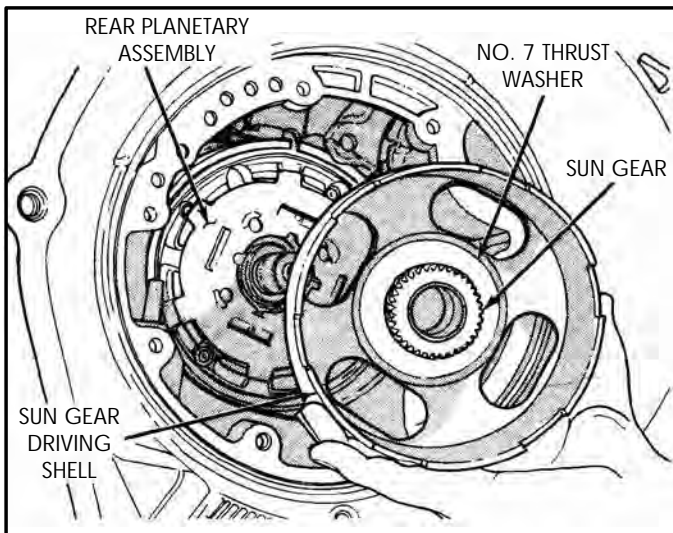

Figure 51
31. Remove the sun gear and drive shell assembly and number 7 thrust washer from the transaxle, as shown in Figure 51.